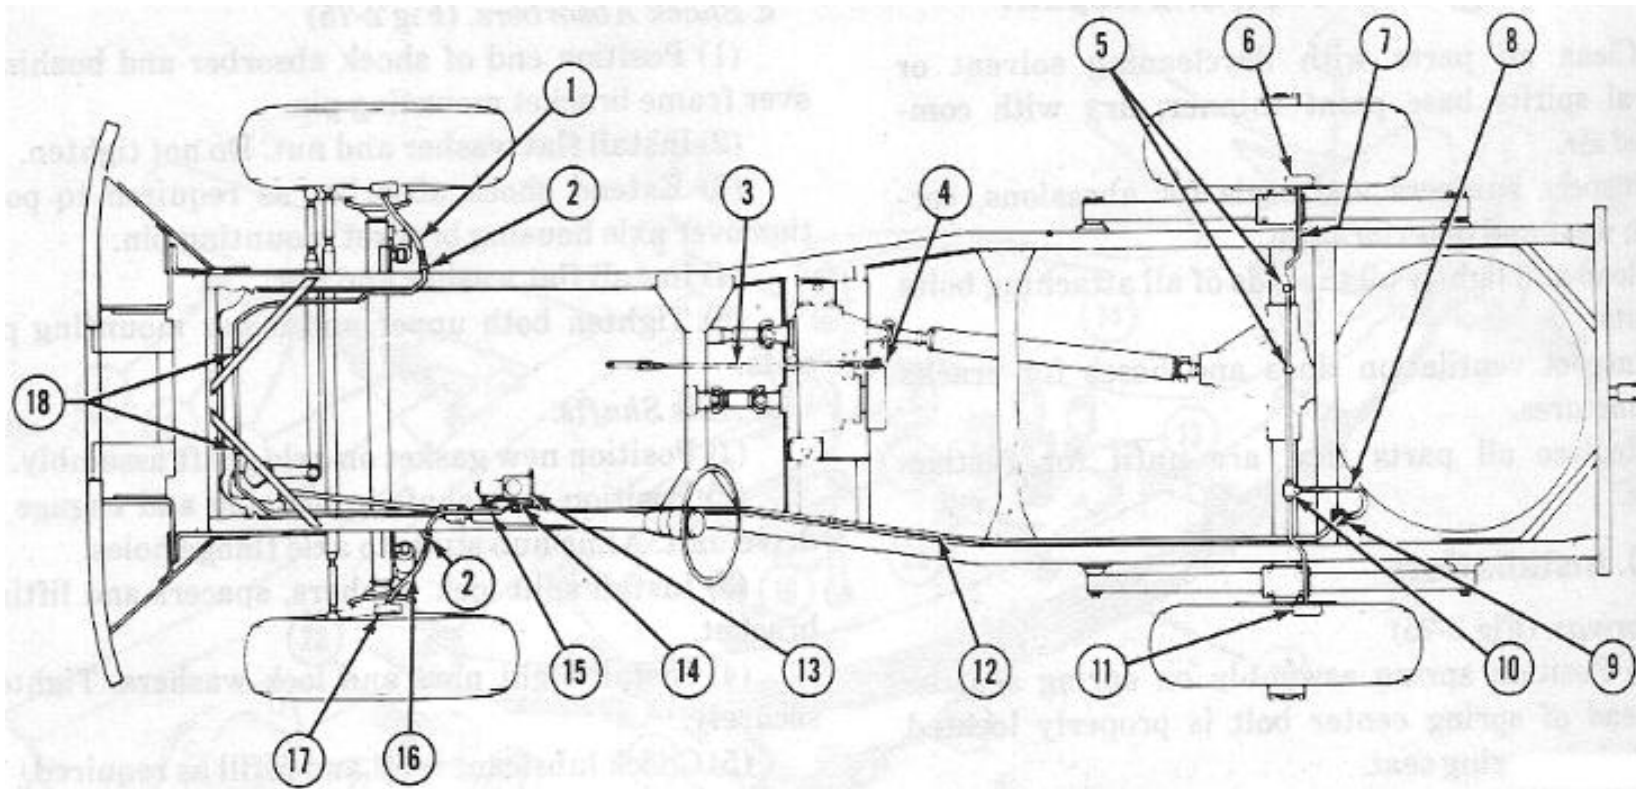

Figure 2-76. Brake system.
a. Service Brakes. The service brakes (fig 2-76) are the hydraulic type with full braking action at all four wheels. They are fully energized in either forward or reverse directions. Brakeshoes are full floating and self-centering. The master cylinder is mounted on the firewall in the engine compartment. The piston within the master cylinder receives mechanical pressure from the brake pedal push rod and transmits it through the brake lines as hydraulic pressure to the